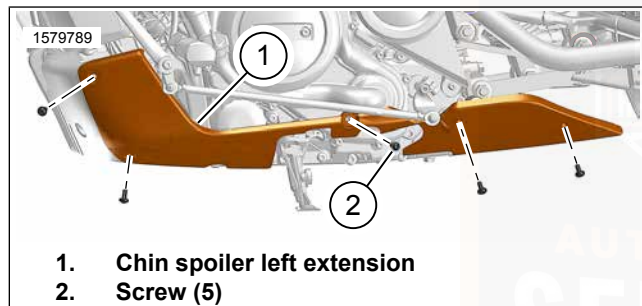
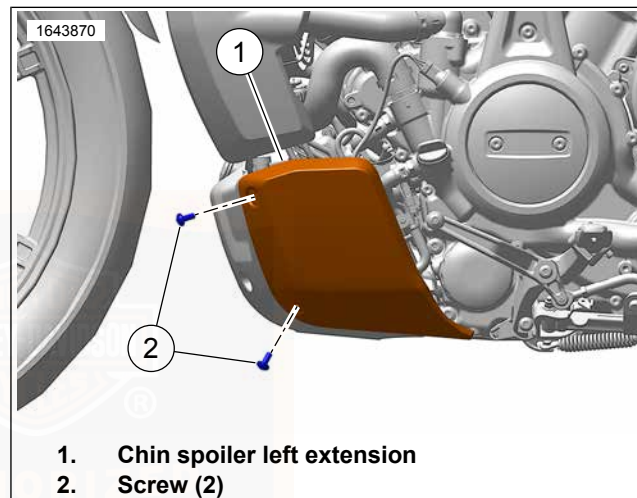

Figure 84. Chin Spoiler Left Extension (Long)
Figure 85. Chin Spoiler Left Extension (Short)
1. See Figure 84 and Figure 85. Remove screws (2).
2. Remove chin spoiler left extension (1).
1. See Figure 84 and Figure 85. Install chin spoiler left extension (1).
2. Install screws (2). Tighten.